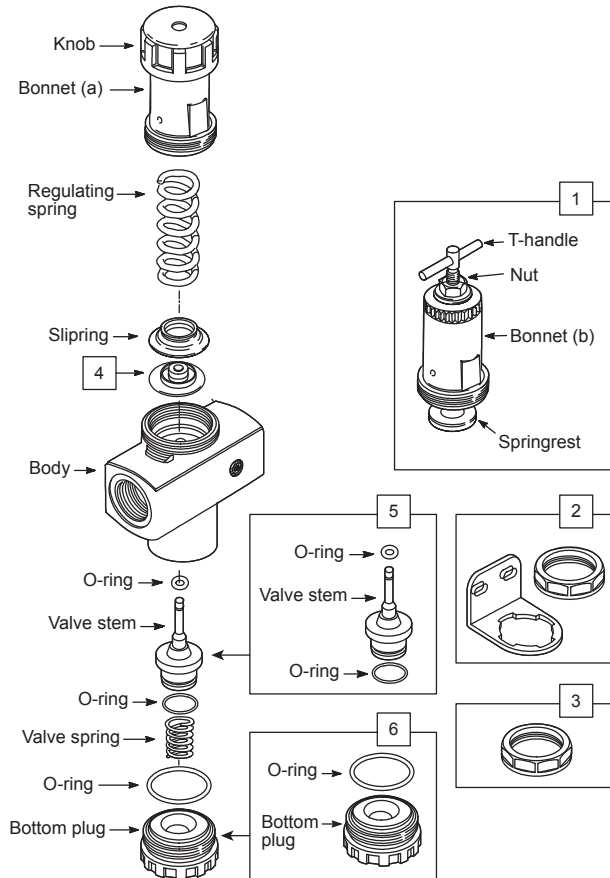

figure 2
OPERATING INSTRUCTIONS (See Figure 2)
- 1 **Disassembly (See Figure 2)**
- Disassemble in general accordance with the parts illustrated in Figure 2.
- 2 **Cleaning (See Figure 2)**
- 3 **Assembly (See Figure 2)**
- Assemble the unit as shown in Figure 2.